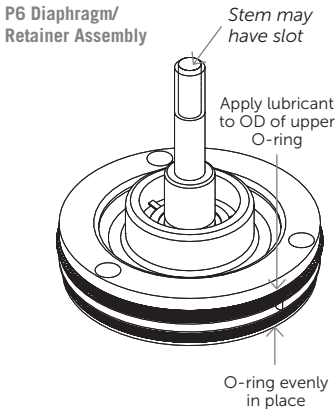

Figure 2.
- Begin assembly by applying a light coating of lubricant (S1) to the diaphragm/retainer assembly (P6) O-ring. (See Figure 2.)
- Make sure the O-ring between the diaphragm and retainer is evenly in place (See Figure 2) and then install the diaphragm/retainer assembly (P6) in the valve body and push the retainer all the way down.